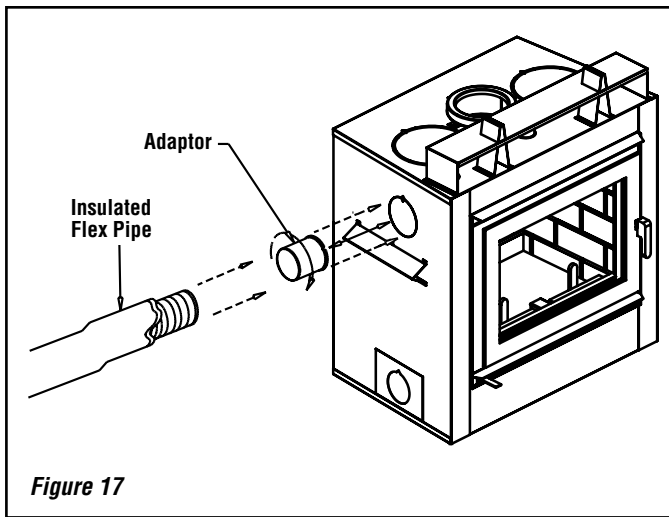

Figure 17
- A) Remove knock-out plate and cut insulation the adaptor at the back and/or the side of the fireplace. Fix the adaptor by twist-locking it to the fireplace. You can use more than one outlet on the fireplace (see **Figure 17**).